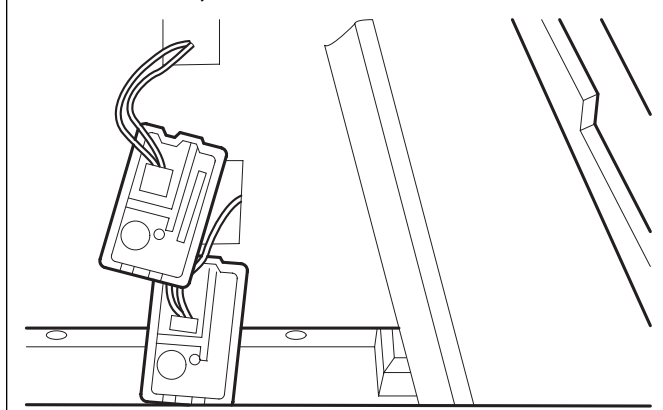

Figure 2-17. Thermistors In Reed Switch
2. Thermistors are located in each reed switch behind the drawer assemblies of each compartment (Figure 2-17). To replace the thermistor the complete reed switch assembly must be replaced. Simply remove the reed switch mounting screw, tilt the top of the reed switch assembly forward and disconnect the electrical connector.
5. Remove both reed switches by unscrewing the mounting screw, tilt the top of the reed switch assembly forward and disconnect the electrical connector (Figure 2-17).
4. Remove both reed switches by unscrewing the mounting screw, tilt the top of the reed switch assembly forward and disconnect the electrical connector (Figure 2-17).
6. Remove both reed switches by unscrewing the mounting screw, tilt the top of the reed switch assembly forward and disconnect the electrical connector (Figure 2-17).